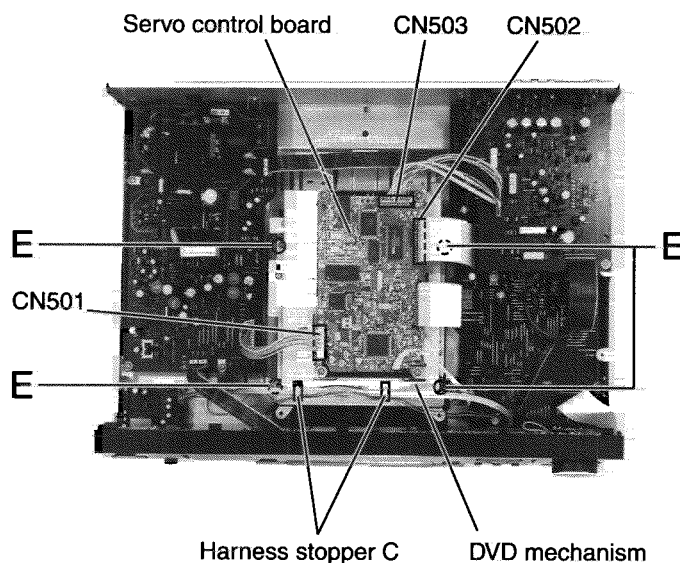

Fig.7
■ Removing the DVD Mechanism (See Fig.7)
■ Removing the Servo Control (See Fig.7 and 8)
2. Release the two harnesses from the harness stopper Cs on top of the DVD mechanism (See Fig.7).